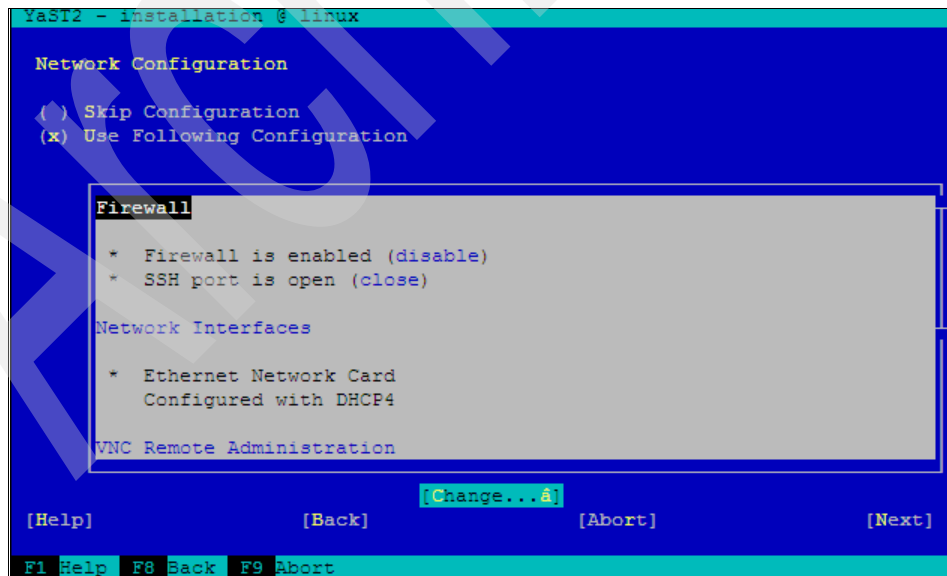

Figure 9-32 SSH port is open
- f. Now the Firewall section of the Network Configuration window (Figure 9-32) shows SSH port is open.